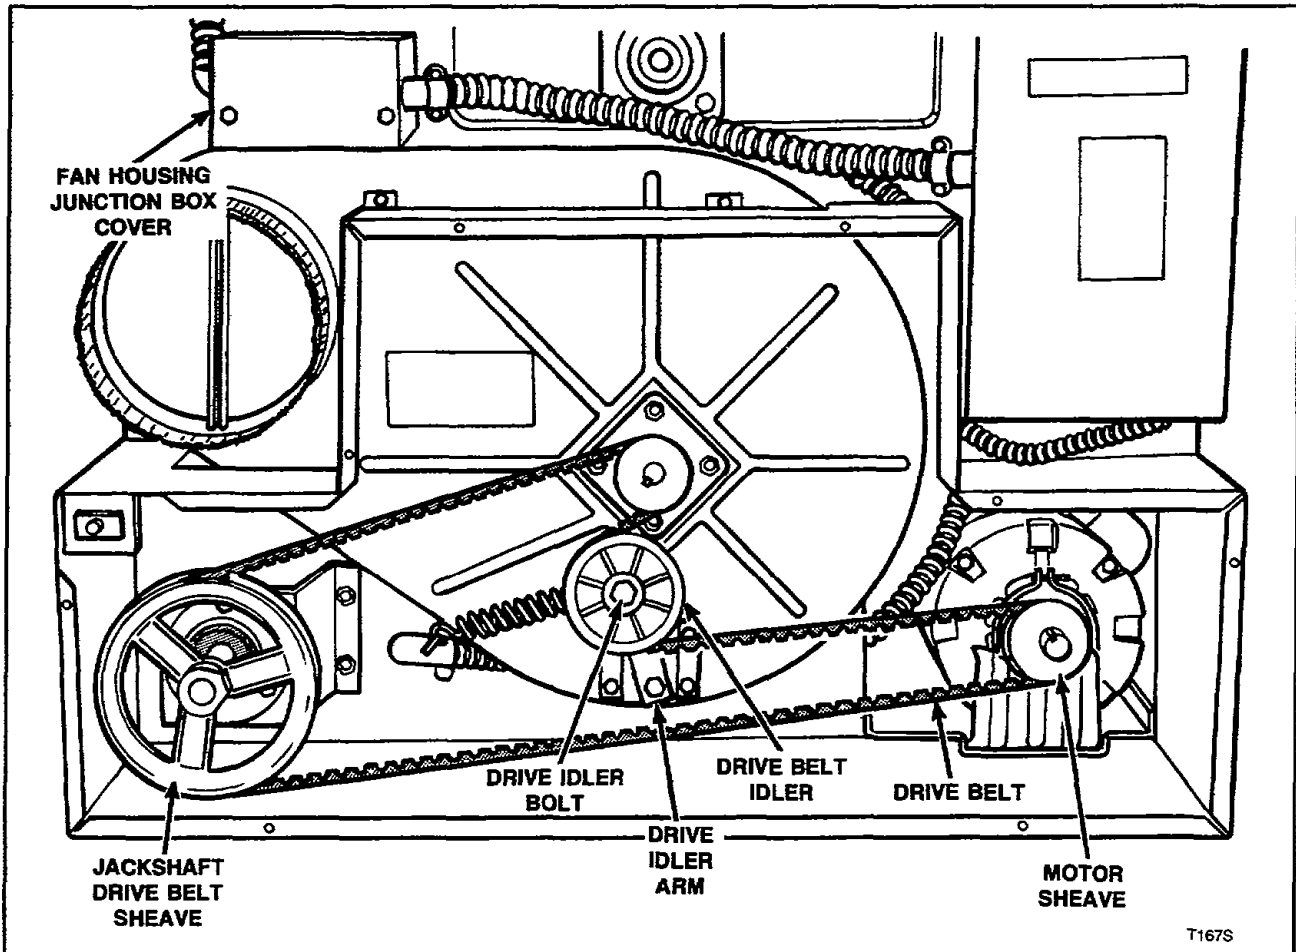

Figure 28
- Run belt off sheaves and idler, *Figure 28*.
**NOTE:** The drive belt tension is automatically set by a spring loaded idler system. There is no adjustment. Refer to *Figure 28* for proper belt routing.
**32. DRIVE IDLER (Figure 28)**